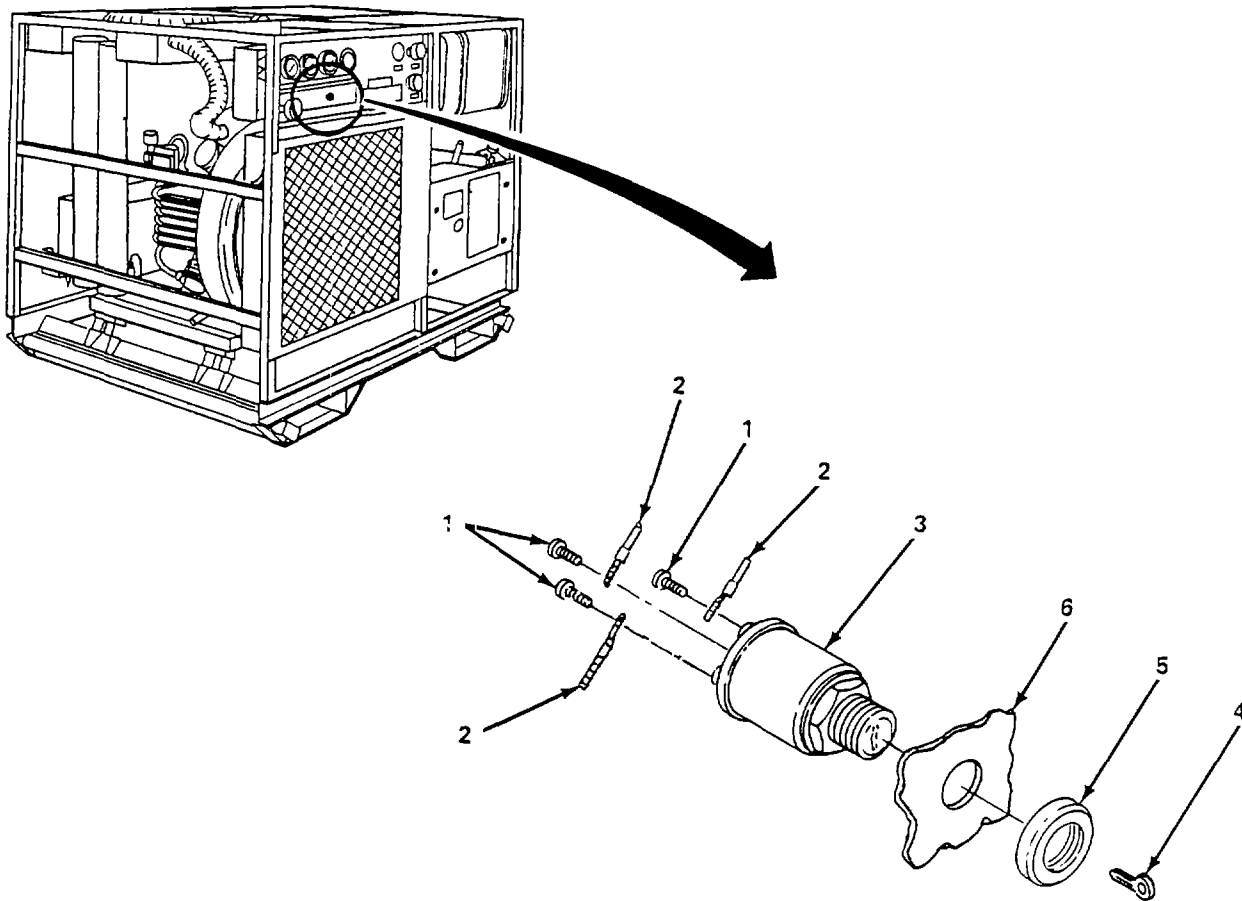

Figure 4-14. Start Switch, Replace.
(5) *Start switch.* (figure 4-14)
- (a) Loosen three screws (1) and tag and remove five wires (2) from switch (3).
- (b) Remove key (4) and remove nut (5).
- (c) Remove switch (3) from control panel (6).
- (d) Install switch (3) and secure with nut (5).
- (e) Install key (4).
- (f) Install five wires (2) and tighten three screws (1).